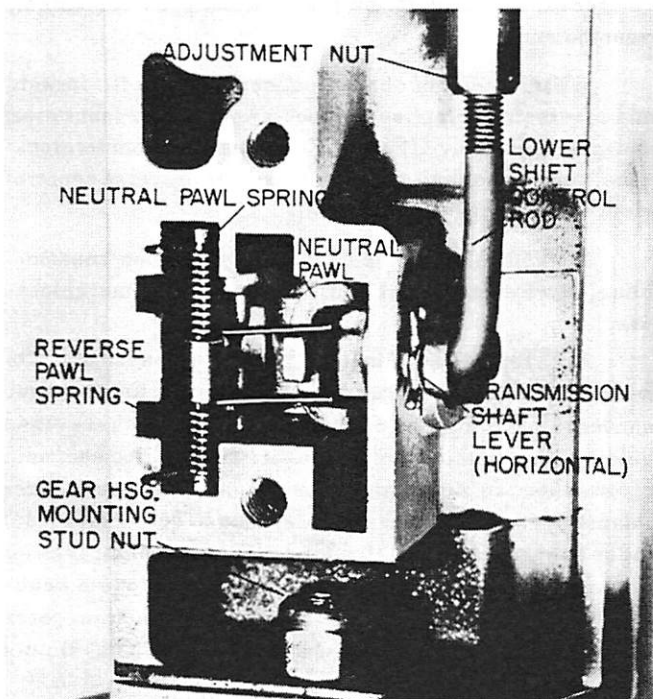

Figure 1. Transmission Cover Plate Removed
4. Place block of wood flat between propeller and anti-cavitation plate and tighten nut securely with large bar or punch. (Figure 1)
To remove transmission assembly from drive shaft housing, first remove gear housing assembly. Remove transmission cover plate, which is secured to front edge of drive shaft housing by 3 cap screws. When removing cover, care should be exercised, as neutral and reverse pawl spring retaining pin, control pawl spring spacer and neutral and reverse pawl springs will be pushed out. (Figure 1) Assembly sets in this recess and is held in place by cover. Its purpose is to place a tension on reverse and neutral pawls. Remove elastic stop nut on drive shaft housing recess, as this nut secures forward gear housing stud.